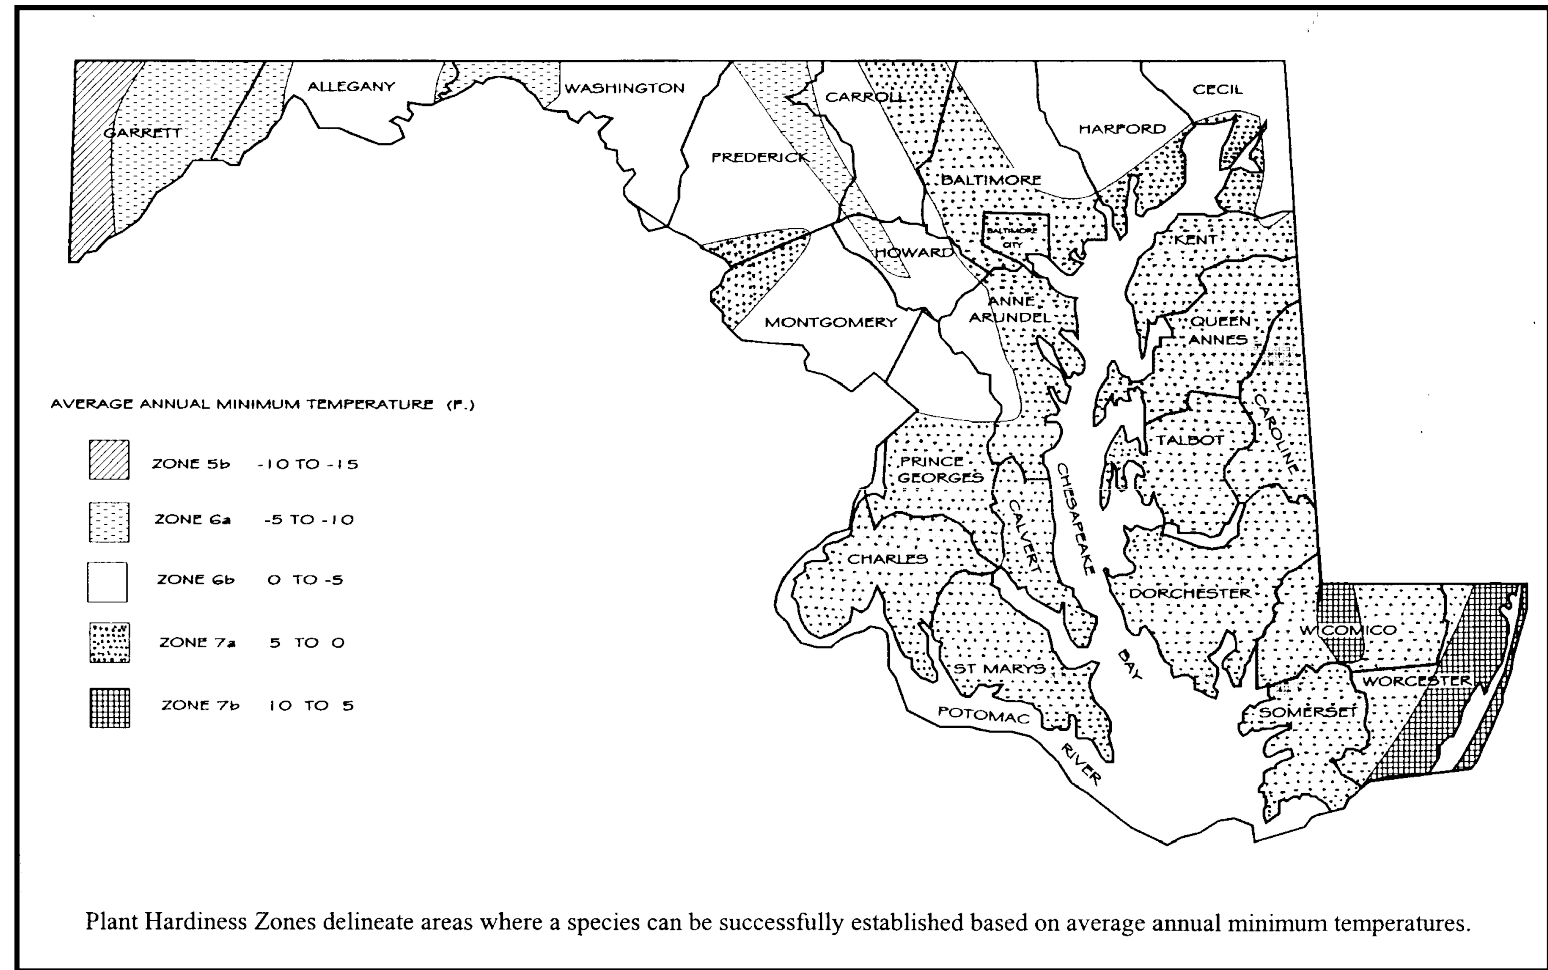

Figure B.3: U.S.D.A. Plant Hardiness Zones
- Select one or more of the species or seed mixtures listed in Table B.1 for the appropriate Plant Hardiness Zone (from Figure B.3), and enter them in the Temporary Seeding Summary below along with application rates, seeding dates and seeding depths. If this Summary is not put on the plan and completed, then Table B.1 plus fertilizer and lime rates must be put on the plan.
- Select one or more of the species or mixtures listed in Table B.3 for the appropriate Plant Hardiness Zone (from Figure B.3) and based on the site condition or purpose found on Table B.2. Enter selected mixture(s), application rates, and seeding dates in the Permanent Seeding Summary. The Summary is to be placed on the plan.